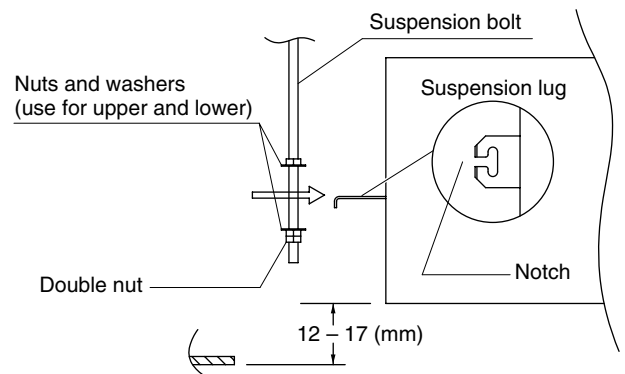

Fig. 3-36
- (3) Thread the 3 hexagonal nuts and 2 washers (field supply) onto each of the 4 suspension bolts as shown in Fig. 3-36. Use 1 nut and 1 washer for the upper side, and 2 nuts and 1 washer for the lower side, so that the unit will not fall off the suspension lugs.
- (4) Adjust so that the distance between the unit and the ceiling bottom is 12 to 17 mm. Tighten the nuts on the upper side and lower side of the suspension lug.
- (5) Remove the protective polyethylene used to protect the fan parts during transport.